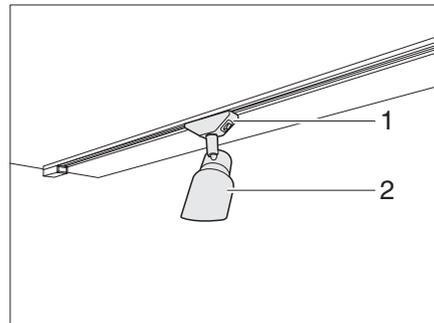

Fig. 44 LED spot light (example)
- ▶ Grasp the holder (Fig. 44,1) and turn it by 45°.
- ▶ Remove the LED spotlight (Fig. 44,2) from the rail system.
- ▶ Insert the LED spotlight (Fig. 44,2) at the desired position into the rail system and turn by 45°.